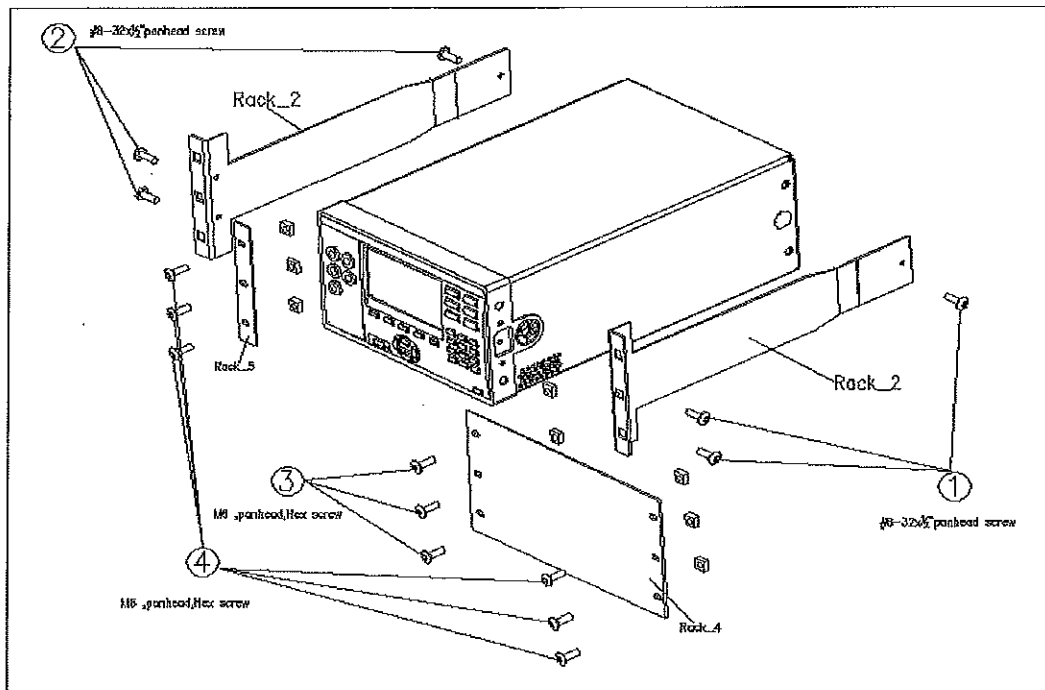

Figure 2
1. Using three #8-32 x ½" panhead screws, attach the Rack_2 on the right front side of the Meter, keeping the smooth face with three holes of the bracket facing the front as shown in Figure 2 .
4. Install the assembled rack mount kit in the rack using the six M6 screws with the Rack_5 under the screws on the left-hand side of the rack as shown in Figure 2.